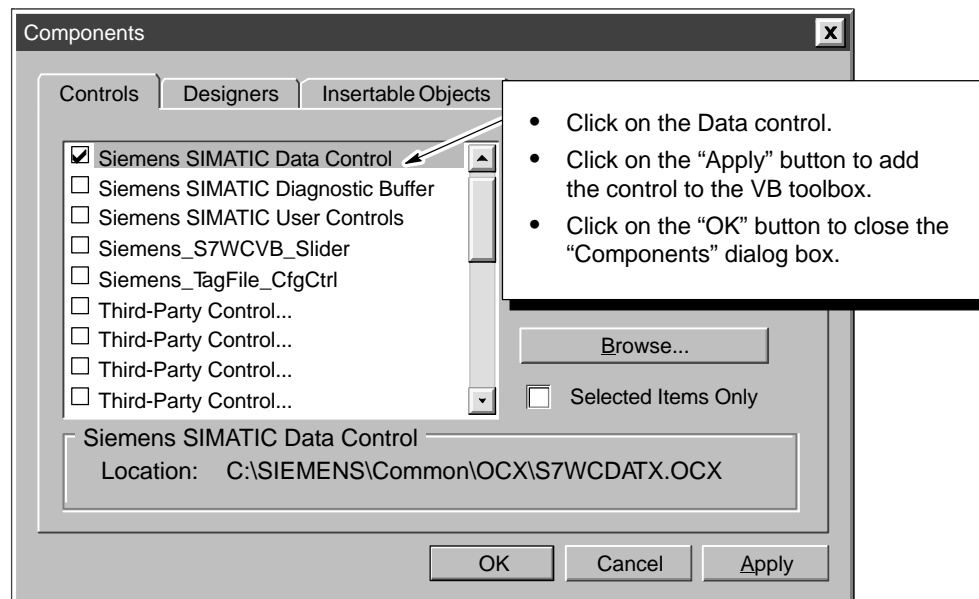

Figure 1-12 Adding the Data Control to the Visual Basic Toolbox
2. Add the Data control to the VB toolbox. For information about adding controls to the VB toolbox, see Section 1.1 and Figure 1-12.